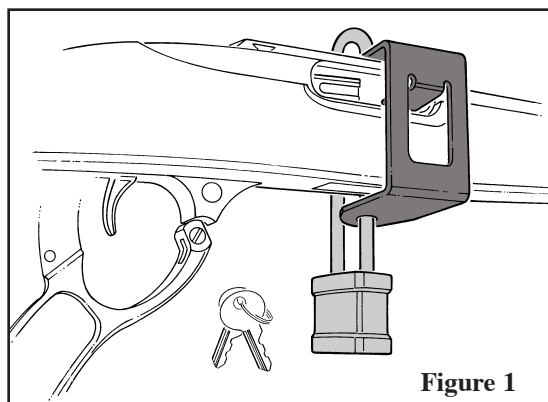
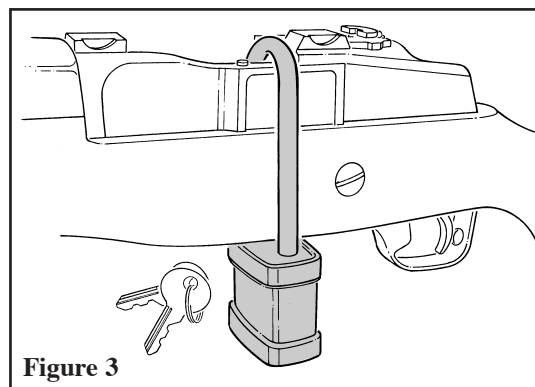

Figure 1
Figure 3
4. If a clamp (black metal bracket that receives the lock) was supplied with your firearm, apply the clamp as shown in Figure 1 or 2.
5. Apply the lock to your Model 96 or 10/22 rifle by placing the lock into the clamp as shown in Figure 1 or 2, or directly to your Mini-14 Ranch rifle or Mini Thirty rifle as shown in Figure 3, or to your LCP as shown in Figure 4.